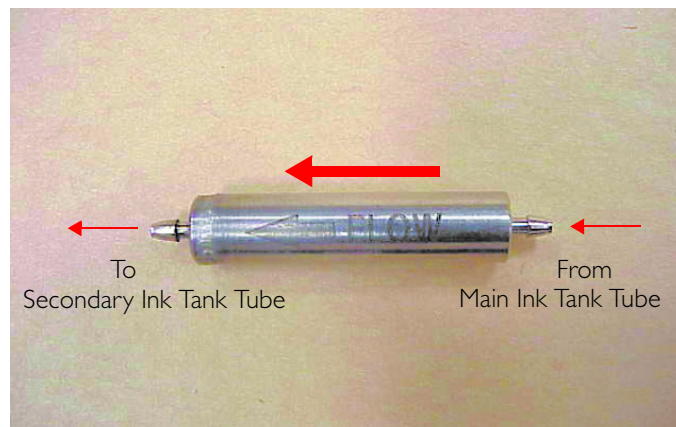

Figure 44. Ink Filter Showing Direction of Ink Flow
When replacing an ink filter, it is important that it is positioned correctly in order to maintain ink flow in the proper direction, as marked on the side of the filter and shown in Figure 44 below.
7. Remove a new ink filter from its plastic packet and fit it into position, making sure that the arrow marked on the side is facing in the correct direction as shown in Figure 44 on page 4-2.